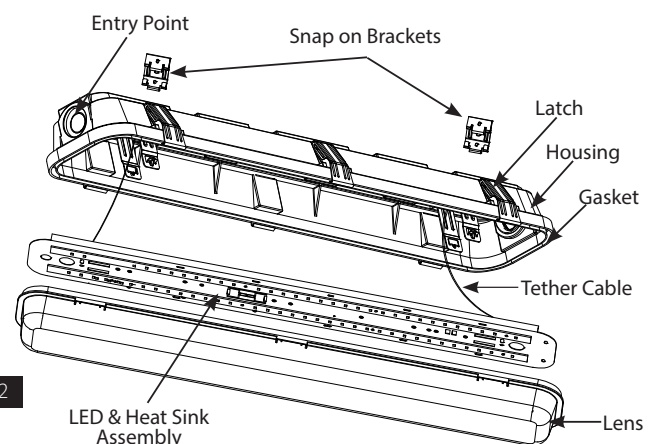

Fig. 2
3. Unlatch the **Lens** from **Housing** as shown in Fig. 2.
1. Release the **Latches** and unlatch the **Lens** from **Housing**. Snap out the **LED & Heat Sink Assembly** as shown in Fig. 2.